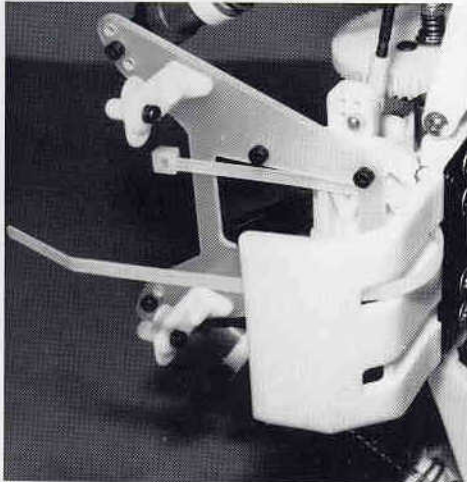

Fig. 232
□ **Fig. 232** Go to bag #7-7 and remove two of the largest wire ties. We are going to secure the battery pack to the rear bumper. Take the tip of the wire tie and slide it through the center of the shock strut, then through the forward hole in the rear bumper, then up through the back hole as shown. Install the second wire tie the same way.